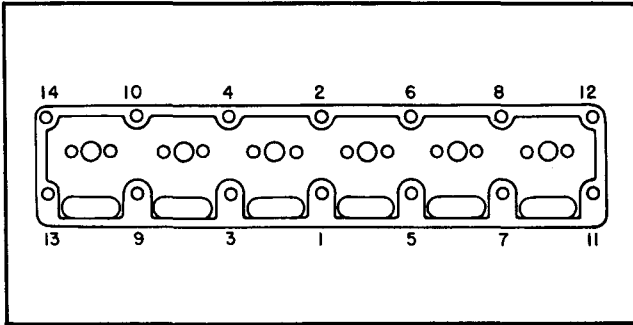

Fig. 4-29. Tightening sequence
11. Tighten all cylinder head capscrews, in sequence, to 25 ft. lbs. Fig. 4-29.
14. Tighten all cylinder head capscrews, in sequence (Fig. 4-29) to foot-pound torque values shown in table below.